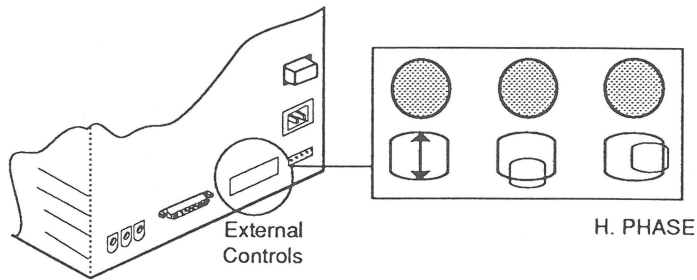

FIGURE 9
1. Using the insulated plastic screwdriver, turn the horizontal center (H.PHASE) control (**Figure 9**) until the raster is centered (left to right) in the display area.